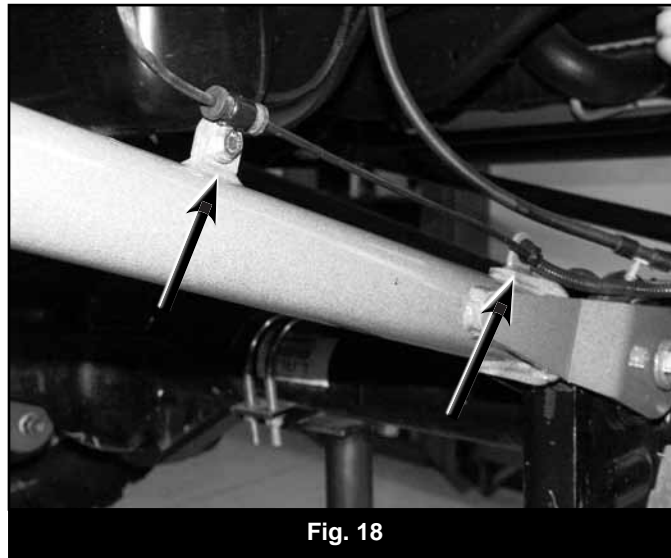

Fig. 18
54. Attach the plastic ABS wire clip to the front tab on the new upper control arm. Secure the wire to the rear tab with the provided wire clip and 1/4" x 3/4" bolt, nut and 1/4" USS washers. Torque 1/4" hardware to 10 ft-lbs. (Fig. 18)